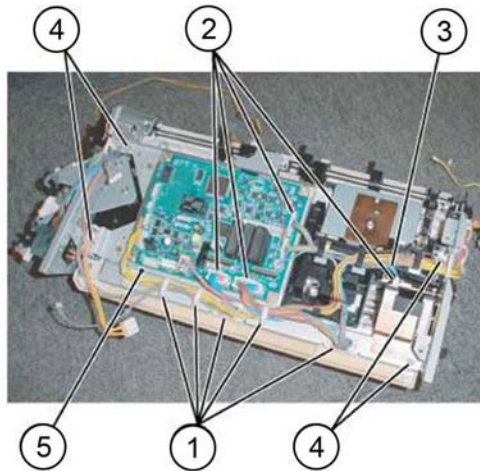

Figure 2 Bottom plate removal
7. Remove the bottom plate, Figure 2:
- a. Release the harness from the five clamps (1).
- b. Disconnect eight connectors (2).
- c. Release the harness from the retainer (3).
- d. Remove four screws (4).
- e. Remove the bottom plate (5).